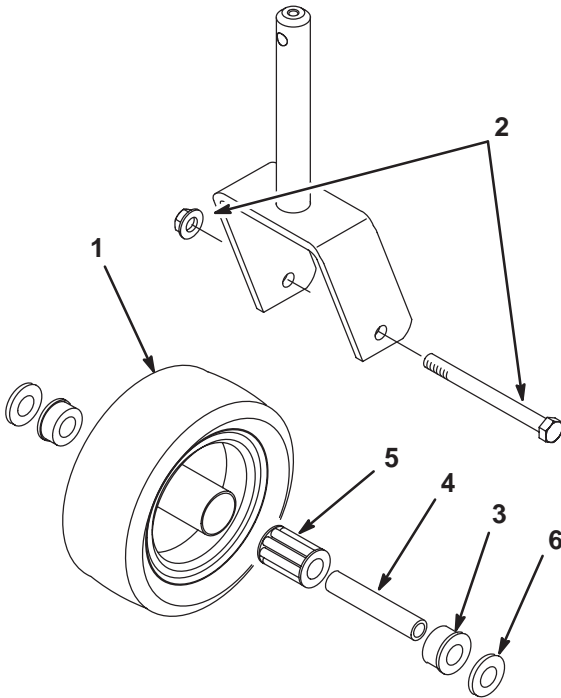

Figure 34
1. Remove the locknut from the capscrew holding the castor wheel assembly between the castor fork (Fig. 34). Grasp the castor wheel and slide the capscrew out of the fork.
2. Pull the spanner bushing out of the wheel hub (Fig. 34).
5. To assemble the castor wheel, push the bushing into the wheel hub. Slide the bearing into the wheel hub. Push the other bushing into the open end of the wheel hub to captivate the bearing inside the wheel hub (Fig. 34).